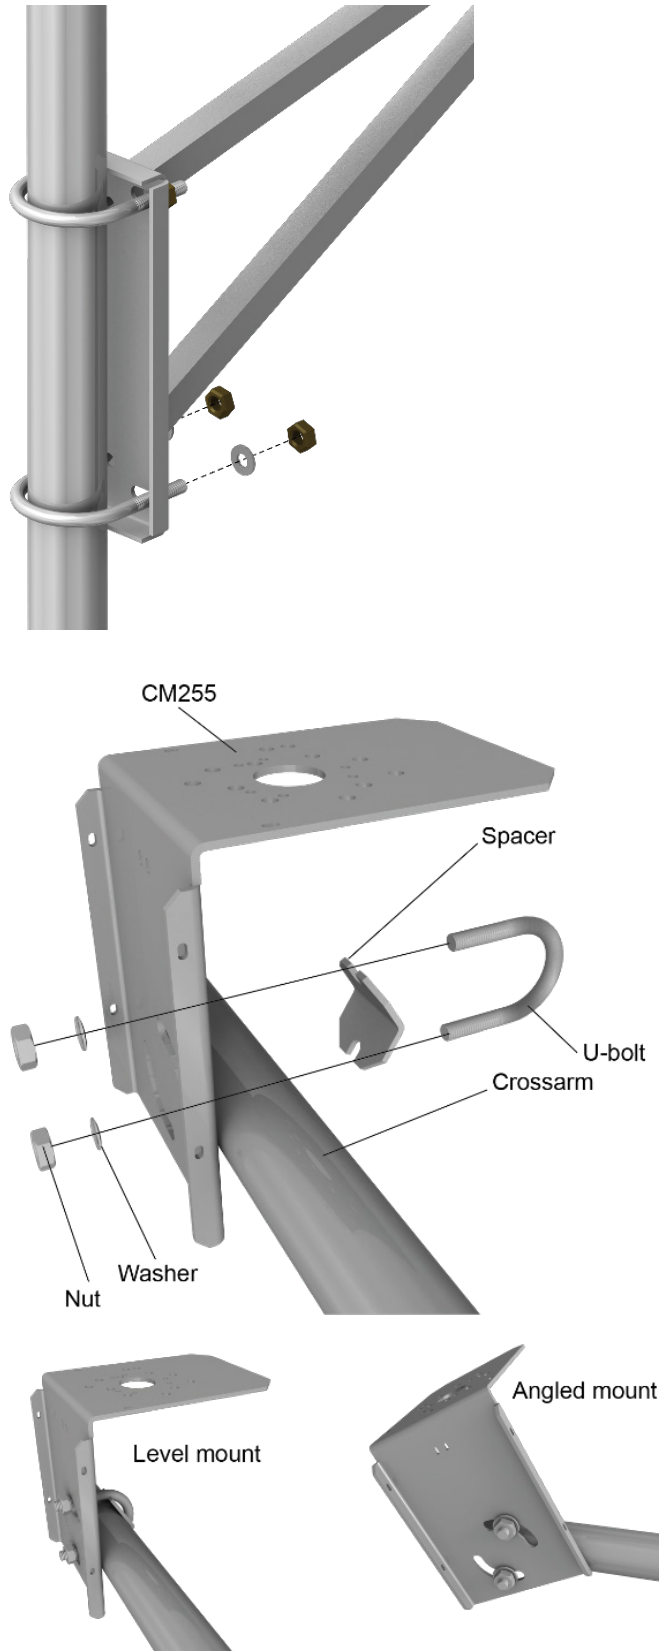

FIGURE 6-3. 015ARM and CM255 showing U-bolt mounting
4. Secure the mounting bracket to the crossarm or the vertical pole using the hardware included with the mounting bracket. The 015ARM, CM225, CM255, CM260, and CM265 use one or two U-bolts, nuts, flat washers, and lock washers to mount the bracket (FIGURE 6-3).